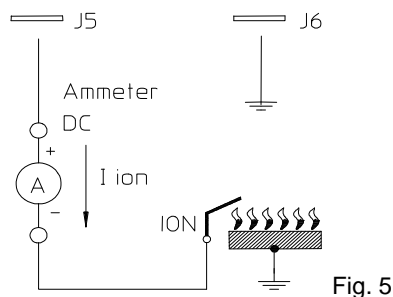

Fig. 5
- the level of the flame signal is sufficient, see Fig.5 for the measuring test;